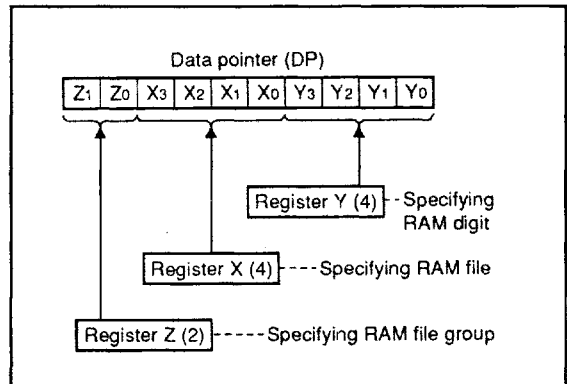
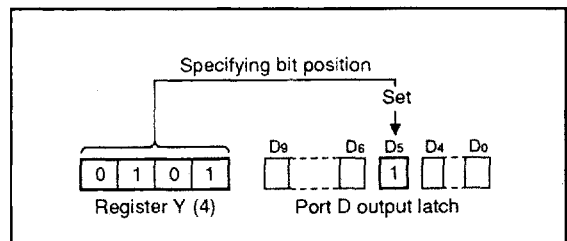

Fig. 8 Data pointer (DP) structure
Fig. 9 SD instruction execution example
(9) Data pointer (DP)
Data pointer (DP) is used to specify a RAM address and consists of registers Z, X, and Y. Register Z specifies a RAM file group, register X specifies a file, and register Y specifies a RAM digit (Figure 8). Register Y is also used to specify the port D bit position. When using port D, set the port D bit position to register Y certainly and execute the SD, RD, or SZD instruction (Figure 9).